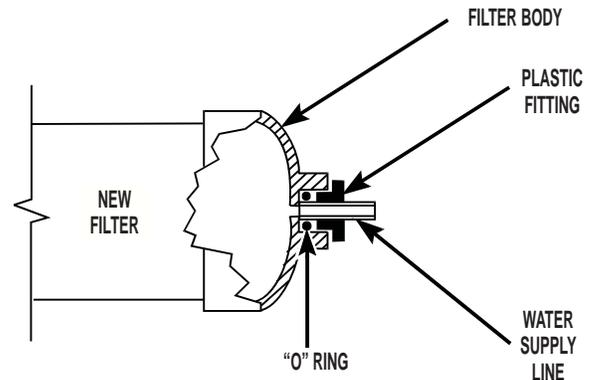

FIGURE 3
5. Insert the incoming water supply line into inlet port of the new filter through the plastic fitting. The water supply line should go inside of the filter 5/8" (16 mm). See Figure 3.